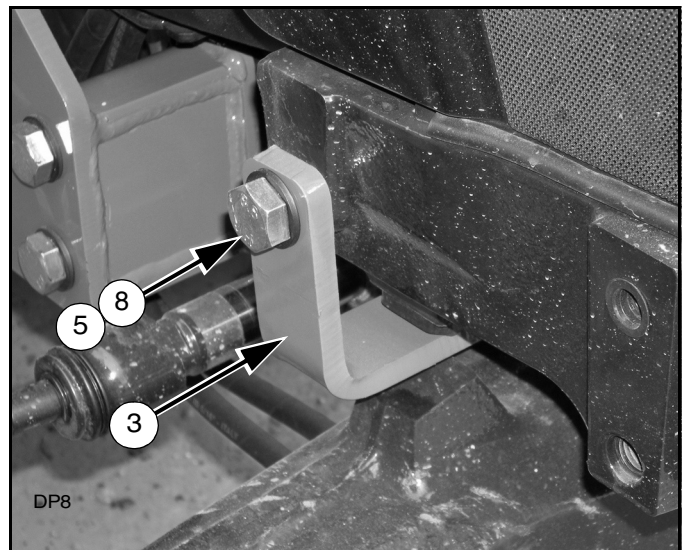

Figure 9. Oscillation Stop Installed, Right Side
1. Attach oscillation stops (3) to right side of tractor using cap screws (5) and hardened flat washer (8). See Figure 9.